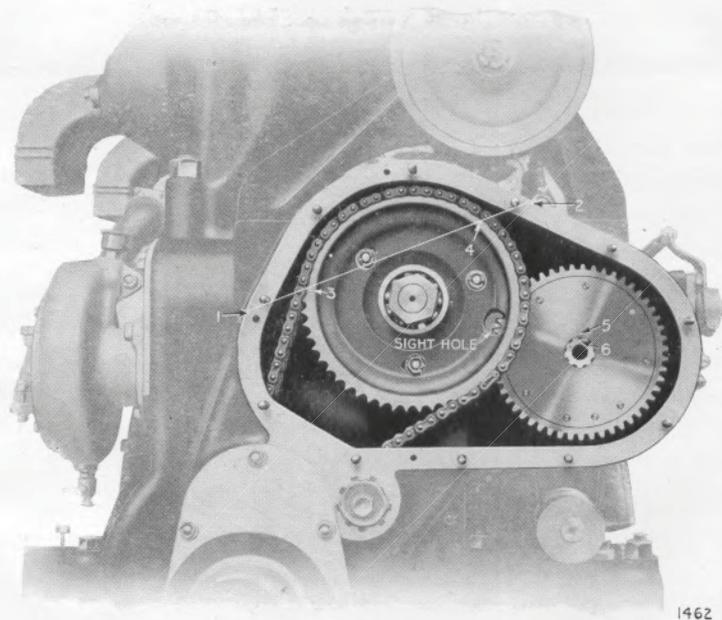

Fig. 9
92·1 **Timing Chain. Renewal and Re-Fitting.**—After long use the timing chain will require renewal (see para. 109). The following will be useful as a guide for this purpose. Thoroughly wash the chain in paraffin and stretch it out on a flat surface. Through the last pin hole in each end of the chain insert fitting pins about 2 in. long. (Detachable link, of course, removed.) Now when the chain is stretched by hand to its maximum the length between the inner sides of the fitting pins must not be greater than $47\frac{9}{16}$ in. If the length is greater than this, the chain has had a useful life and must be renewed. Expressed in another way, the length quoted above is that which would be read by an “inside” micrometer or “inside” callipers. The useful life of a chain is about 10,000 hours, but the detachable link should be renewed once during this time. When fitting the detachable link great care must be taken to see that the spring clip is not overstressed and retains its grip in the groove on the pin when fitted. The clip should be fitted so that the closed or rounded end is leading, that is to say, the pointed or open end is trailing when the chain is running. *e.g.* In Fig. 9 the clip is shown fitted correctly for an engine running in a clockwise direction.
105. **Timing of Valve and Injection Pump Camshafts.**—Remove the cover from the chain case at the front end of the engine ; this will give access to the chain, camshaft chain wheel and fuel pump driving gears (Fig. 9). The chain wheel and valve camshaft gear are bolted together, face to face, by three studs. The stud holes in the chain wheel are elongated to permit a certain small amount of rotation, relative to the camshaft gear, for the purpose of accurate timing. When this timing position has been set by the makers, a marker is inserted in the sight hole and a line forming an arc of a circle inscribed on the camshaft gear.
- (1) The dots 1 and 2 on the gear case and the dots 3 and 4 on the periphery of the camshaft chain wheel will all lie on a straight line as indicated by the stretched cord in Fig. 9.
- (2) Through the sight hole in the large chain gear will be visible the teeth of the gears of the valve and fuel-pump camshafts, and it will be found that the dotted tooth of the gear of the valve camshaft lies between the dotted teeth of the fuel-pump camshaft.
- (3) Through the same sight hole will be verified that the lune on the edge of the gear of the valve camshaft (described above) is in its correct position, in which case the lune will not be very conspicuous but should the gears be incorrectly bolted together, the lune will exhibit the defect very conspicuously.
- (4) The dotted spline on the camshaft of the fuel pump will register with the dot on the camshaft gear, see dots 5 and 6 in Fig. 9.
108. **Correction of Injection Timing for Stretch (Wear) of Timing Chain.**—In the course of time, the timing chain wears and consequently increases in length (para. 92), which causes the timing of the valves and the fuel injection to become slightly retarded, therefore compensation should be made when required. To this end inspect the timing as indicated in para. 102, after, say, 800 hours working, and if it be found that the timing is retarded, proceed as follows: Turn the flywheel until the injection timing line is in line with the zero line on the cylinder, then slacken the three hexagon nuts on the main chainwheel shown in Fig. 9, and rotate the fuel pump camshaft or the valve camshaft until the lines on the windows of the fuel pump coincide as indicated in para. 105. Check the timing again after tightening the nuts (see also para. 109).